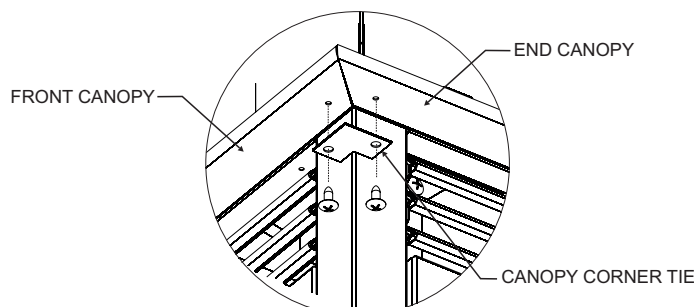

Figure 5a
Prior to installing the Peninsula mantel, install the 3-piece canopy and End Shield in conjunction with the (4) Mantel Corner Brackets (included with the Mantel Top) as shown in Figure 5a. Refer to the instructions included with the EMPT Mantel Top for additional installation details.
4. Place the other (2) Mantel Corner Brackets on top of the Front and Rear Canopies near the open end of the fireplace and loosely install a #10 x 1/2" screw through the corner bracket and canopy, then into the pilot holes provided. Do not tighten the screws.
7. To finish canopy installation, install two (2) canopy corner tie brackets at the underside of the canopy corners as illustrated by Figure 5a. Use a Phillips screwdriver to install two (2) #8 x 1/2 black sheet metal screws to attach each corner bracket. Before tightening screws, align the canopy mitered corners together then secure.